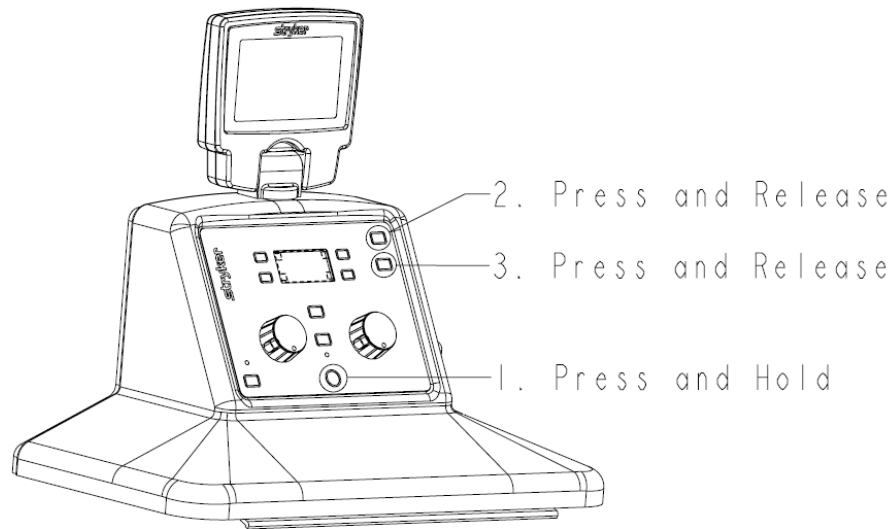

Figure 1: Access the Technician Menu
2. To access the technician menu from the system settings menu, hold down the Vacuum System power button, then press and release the IV Pole UP button, and finally press and release the IV Pole DOWN button (see figure 1).